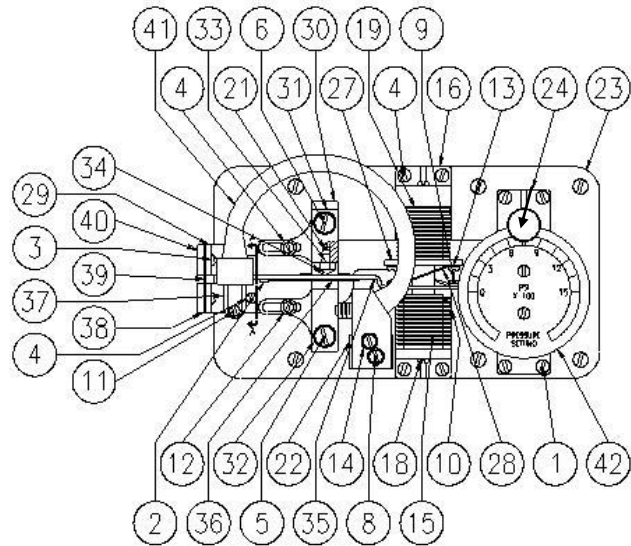

Figure 6 Controller Sub-Assembly for
(Refer to figure 6)
1. Move the calibration adjuster (Key 30, Figure 6) to the right or the left.
4. Raise or lower the nozzle (Key 34, Figure 6) to get the desired setting of zero as per chart below. Nylon insert will hold the nozzle in place.
5. Raise or lower the nozzle (Key 34, Figure 6) to get the desired setting of zero as per chart below. Nylon insert will hold the nozzle in place.
Controller Sub Assembly (Refer to Figure 6)